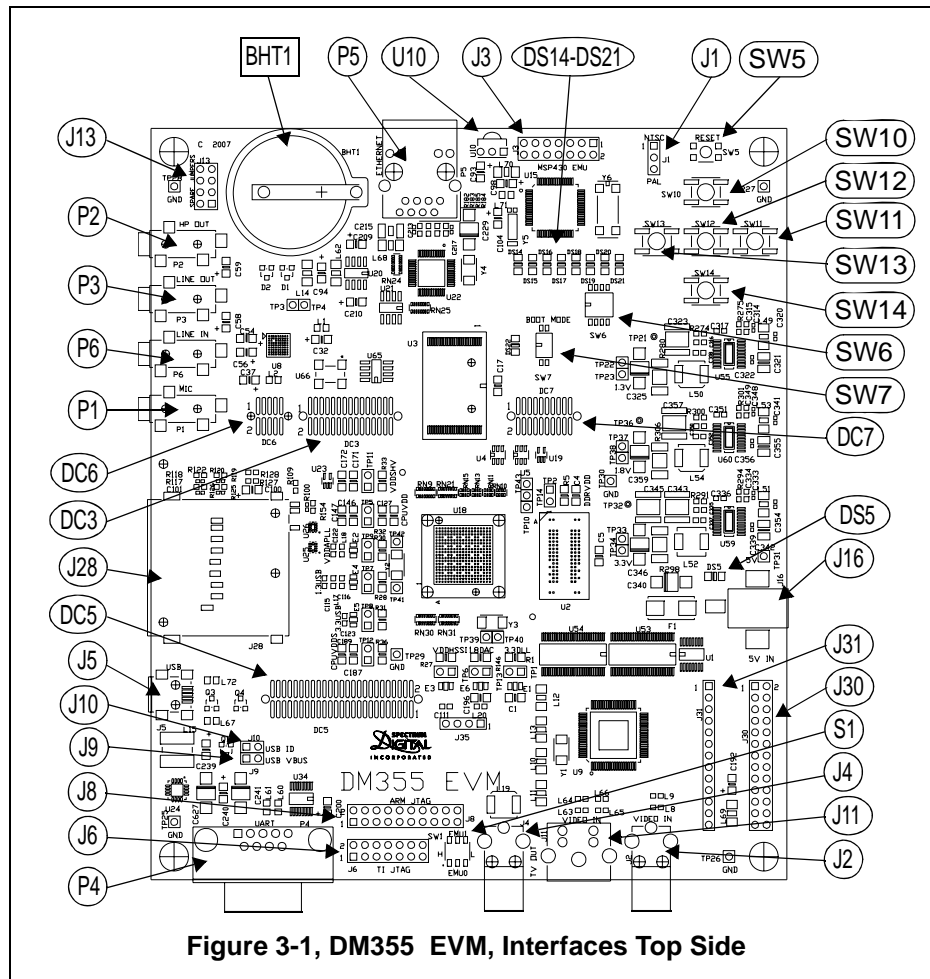

Figure 3-1, DM355 EVM, Interfaces Top Side
The DM355 EVM is a 5.0 x 6.5 inch (127 x 165 mm.) ten (10) layer printed circuit board which is powered by an external +5 volt only power supply. Figure 3-1 shows the layout of the top side of the DM355 EVM.